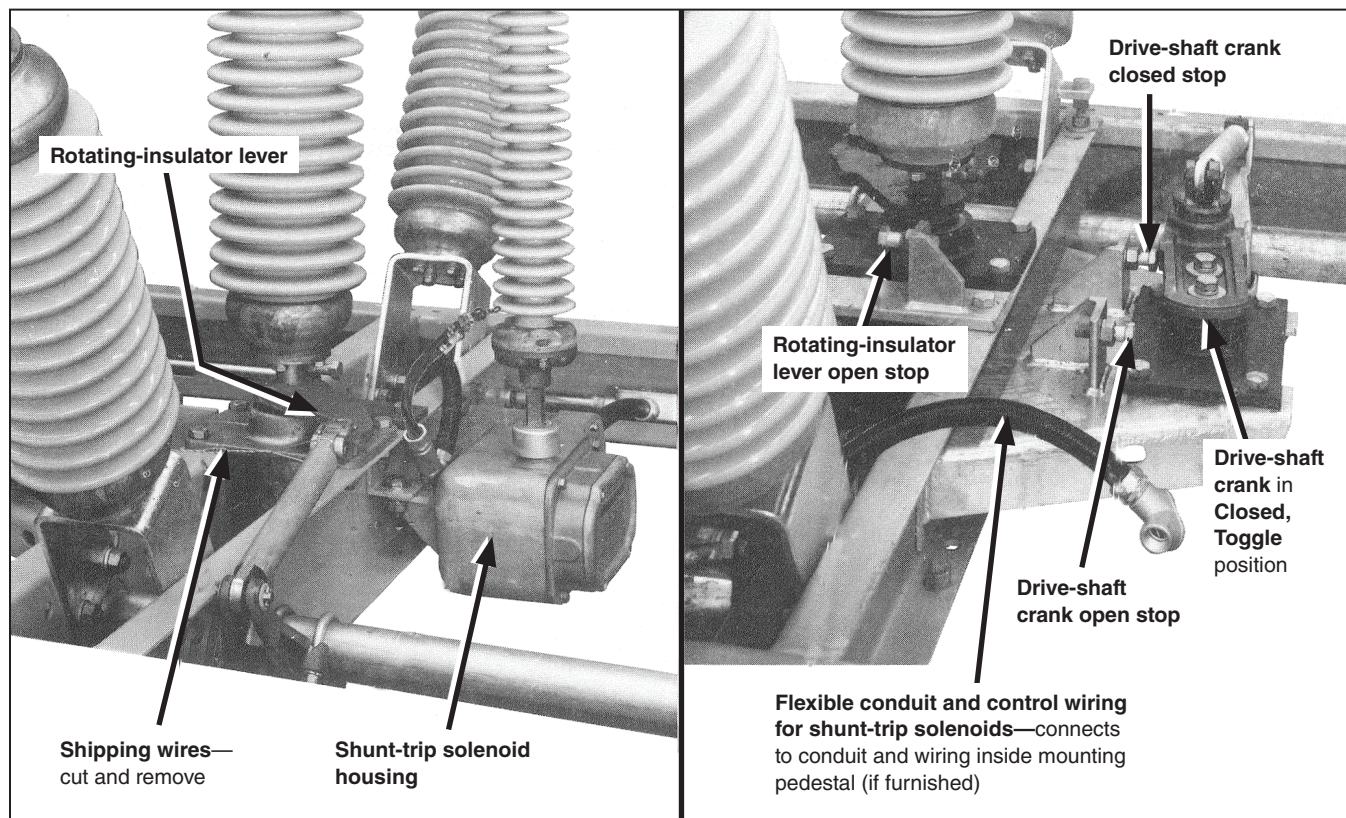

Figure 7. Mounting frame weldment details.
- STEP 4.** Cut and remove the shipping wires as indicated in Figure 7 on page 11.